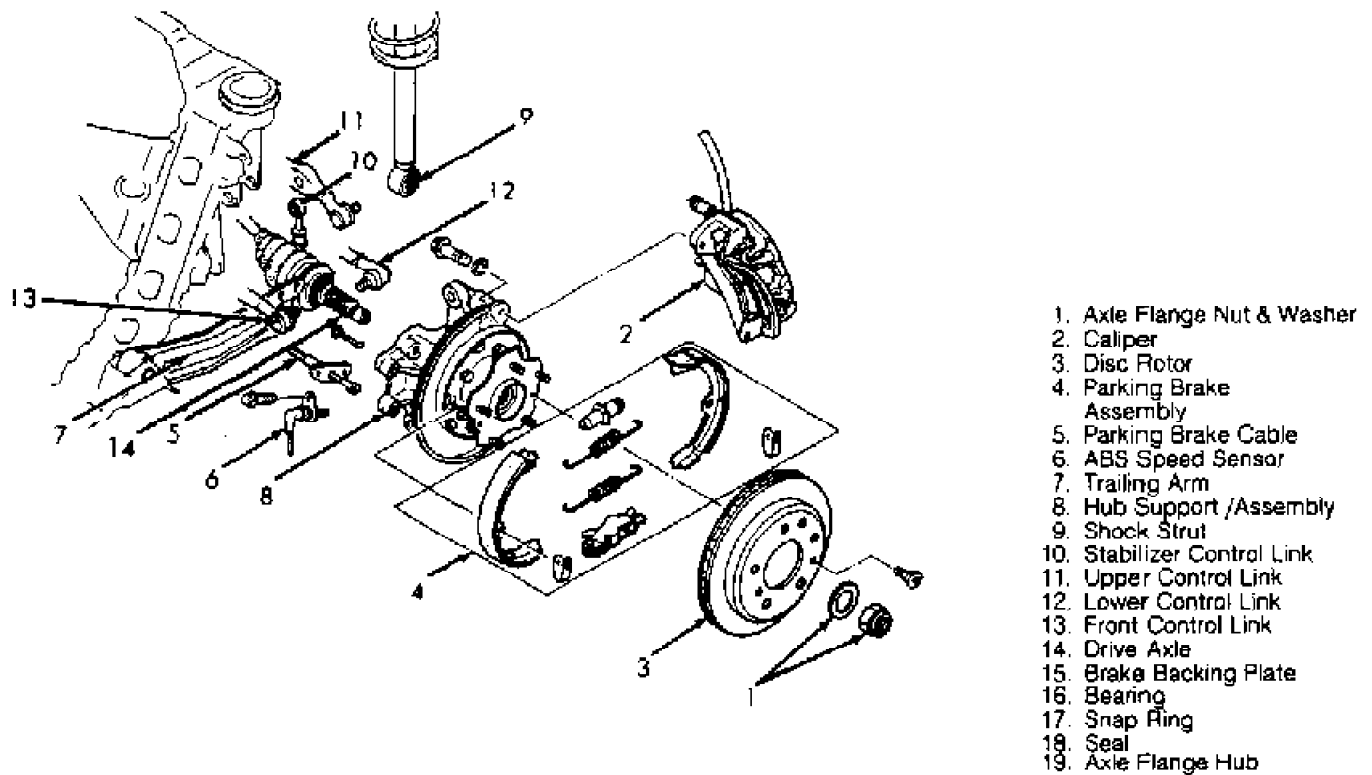

Fig. 9: Exploded View Of Rear Hub Assembly (929) (1 of 2)
1) Raise vehicle and support with safety stands. Remove wheel assembly. Remove axle lock nut and washer. Remove brake caliper. See Fig. 9.
4) Loosen brake backing plate. Using press, remove axle flange hub support. See Fig. 9. Remove brake backing plate from hub support. Remove seal and snap ring from hub support. Press bearing from hub support. DO NOT reuse wheel bearing. Check all components for cracks, wear or damage. If inner bearing race remains on hub, grind inner race down until approximately .0197" (.5 mm) thick. Tap race with chisel and hammer to break race and remove.